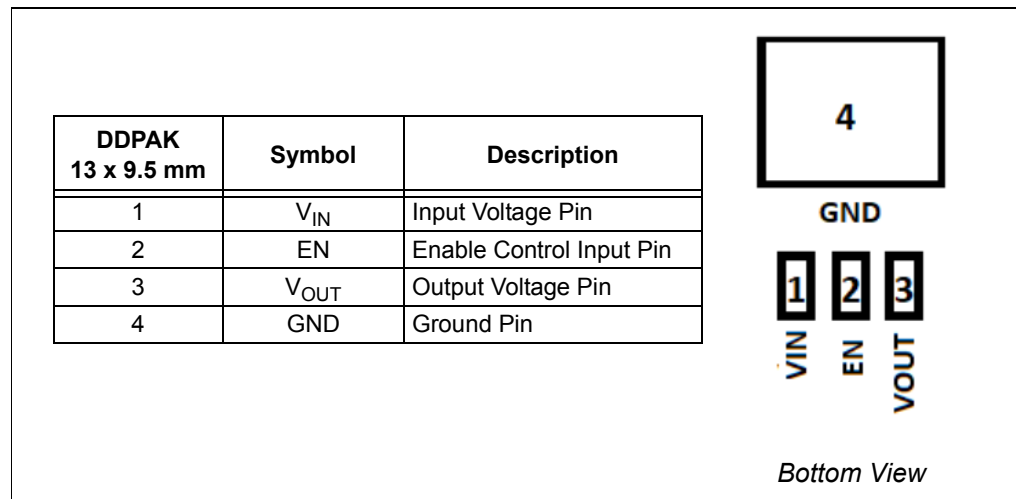

FIGURE 2-4: MCP1663 SEPIC DDPAK Mini-Module Bottom View and Pins Description.
2. Connect the Enable pin to the V_{IN} pin; refer to Figure 2-4.